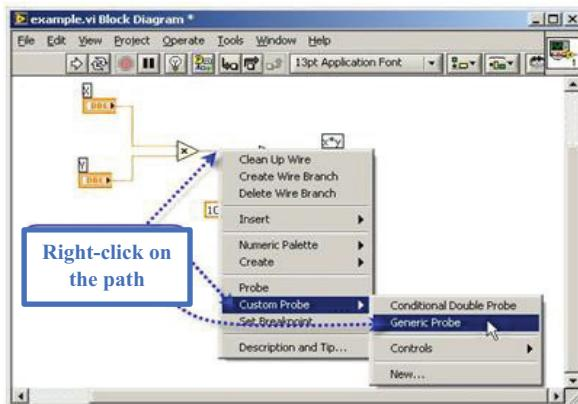

Figure 2.81: Select Generic Probe
**Generic Probe** can be obtained by pressing the right click on the path and choosing Probe. This is if it was not previously defined by Custom Probe (it will be explained in this lesson) for the data type on this path, as shown in figure 2.81.